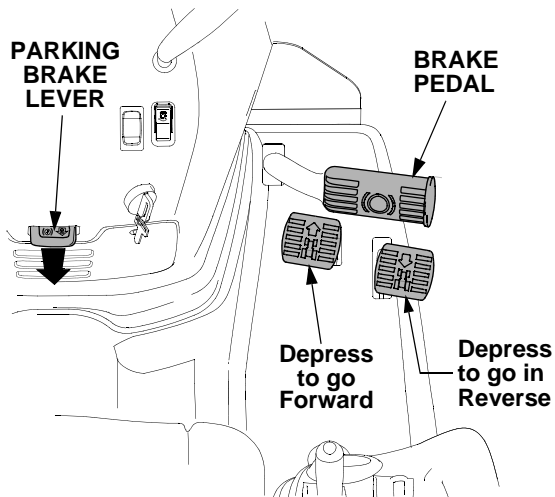

Figure 14
- Fully depress the brake pedal to bring the tractor to a complete stop. Push downward on the parking brake lever and release the pedal to engage the parking brake. Refer to Figure 14.
- To move forward, slowly depress the forward control pedal (See Figure 14) until the desired speed is achieved. The speed of the tractor is directly related to the distance the pedal is depressed.
- To move in reverse, check that the area behind is clear then slowly depress the reverse control pedal. See Figure 14.